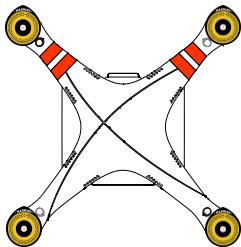

Figure 20
- (Figure 20) Remove warning cards from motors after you have read them.